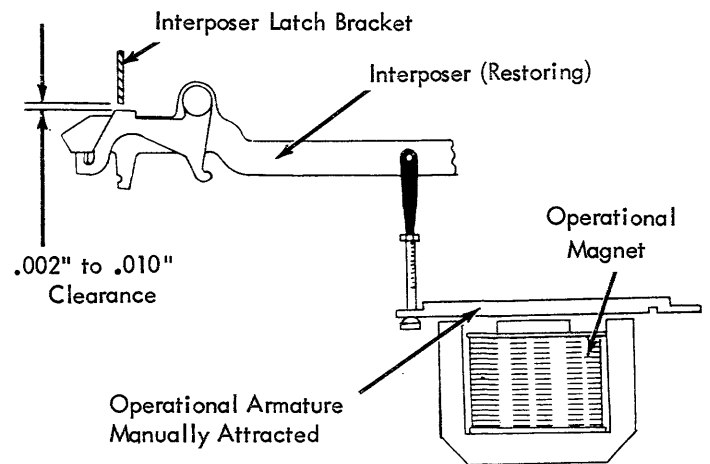

FIGURE 127. Check, Trip Link
5. Pull Link (Fig. 127) - Adjust the operational pull links so that a .002" to .010" clearance exists between the interposer latch bracket and the interposer at the point of relatching.